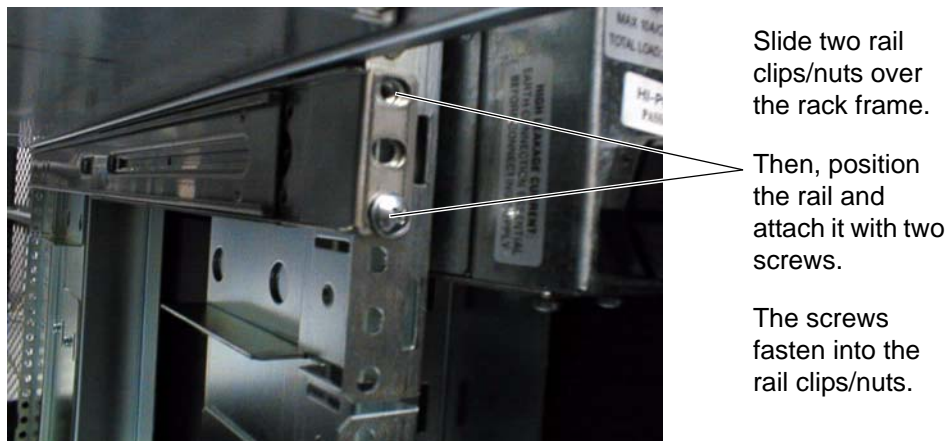

Figure 2-5 Attaching the Rail to the Rear of the Rack (View from Rear of Rack)
5. Attach the rail to the rear of the chassis (refer to Figure 2-5):